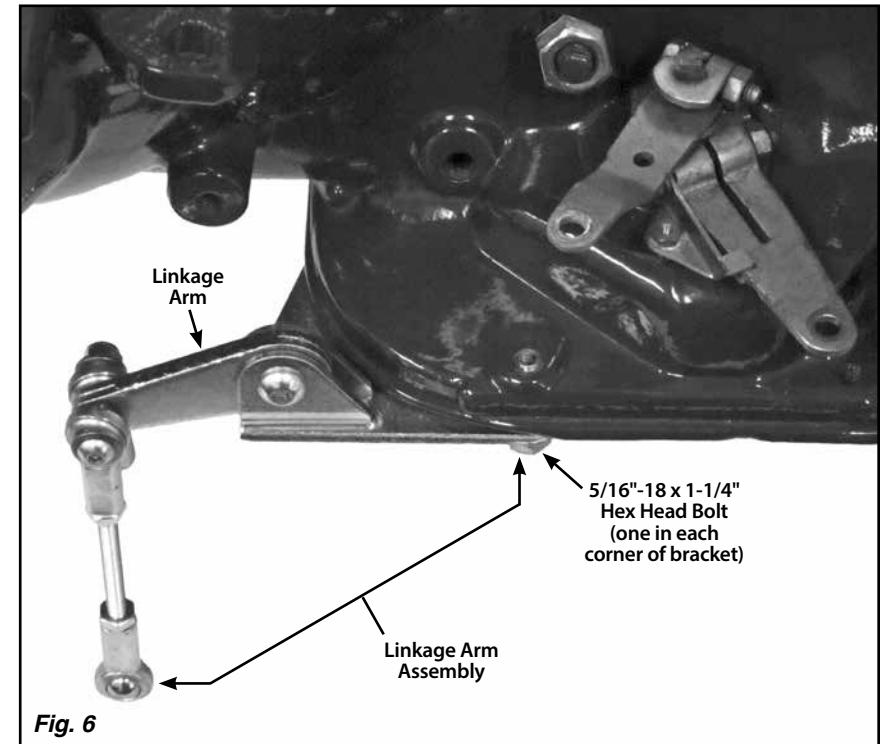
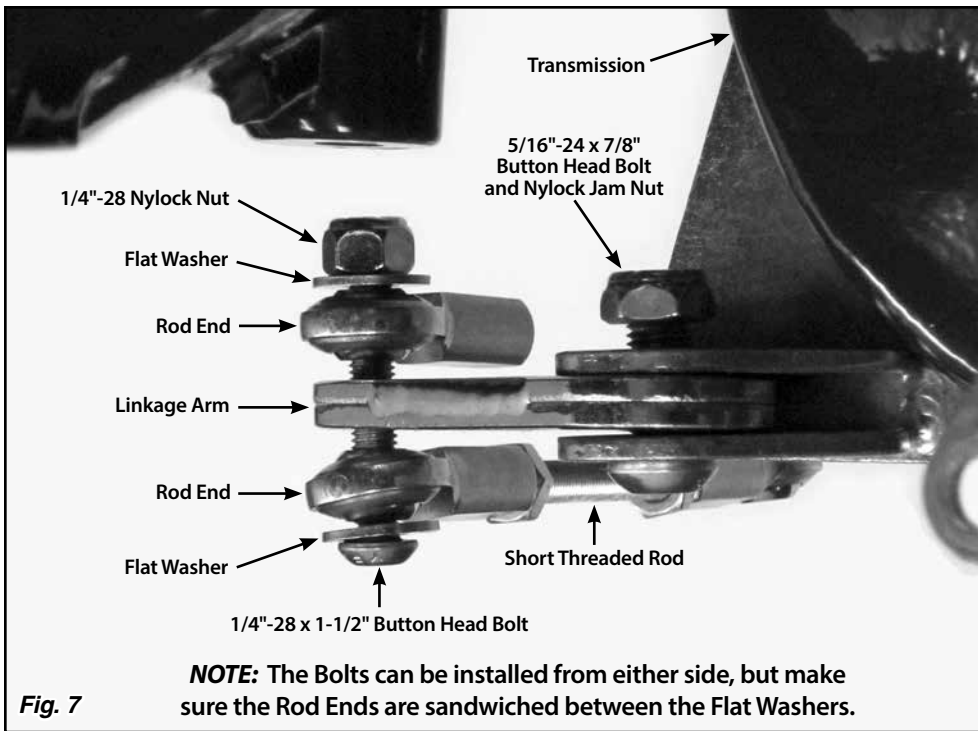

Fig. 6
Fig. 7
Step 10: Remove the forward-most bolt from the driver side of the transmission pan, and the bolt that is the furthest toward the driver side on the front of the transmission pan. Remove the masking tape from the 5/16"-18 x 1-1/4" bolts on the provided linkage arm assembly. Install the linkage arm assembly onto the underside of the front driver side corner of the transmission pan. **Fig. 6**
Step 11: Verify that the linkage arm and rod ends are assembled correctly, with the short threaded rod on the outside of the linkage arm, away from the transmission. **Fig. 6** If not, rearrange the parts as needed in order to match **Fig. 7**. The bolt can be installed from either side, but make sure there is a flat washer to the outside of each rod end. Tighten the 5/16"-24 x 7/8" button head bolt and nylock jam nut at the bottom of the linkage arm. Then, loosen the 5/16"-24 nylock jam nut just enough so that the linkage arm can pivot freely.